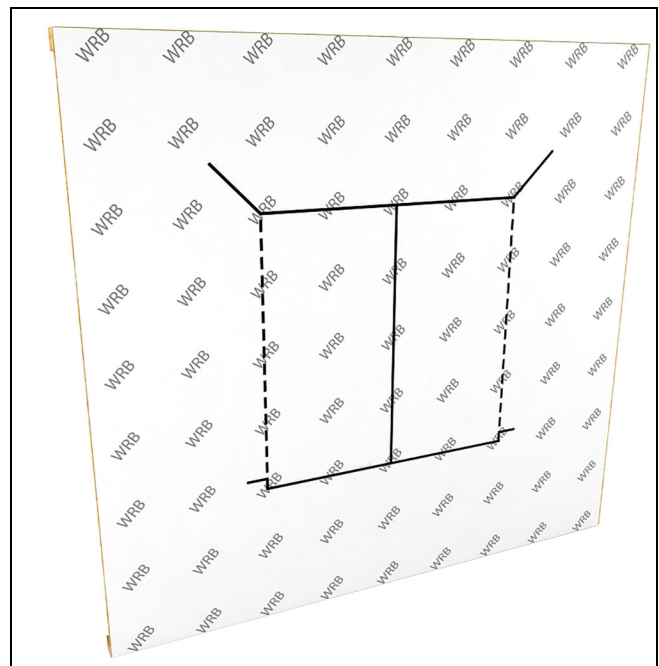

Figure 4
1. Make horizontal cuts to the Weather Resistive Barrier (WRB) across the top and bottom of the Rough Opening. Make a vertical cut down the center of the RO. then make 45 degree cuts away from the corners of the top of the RO. See Figure 4.